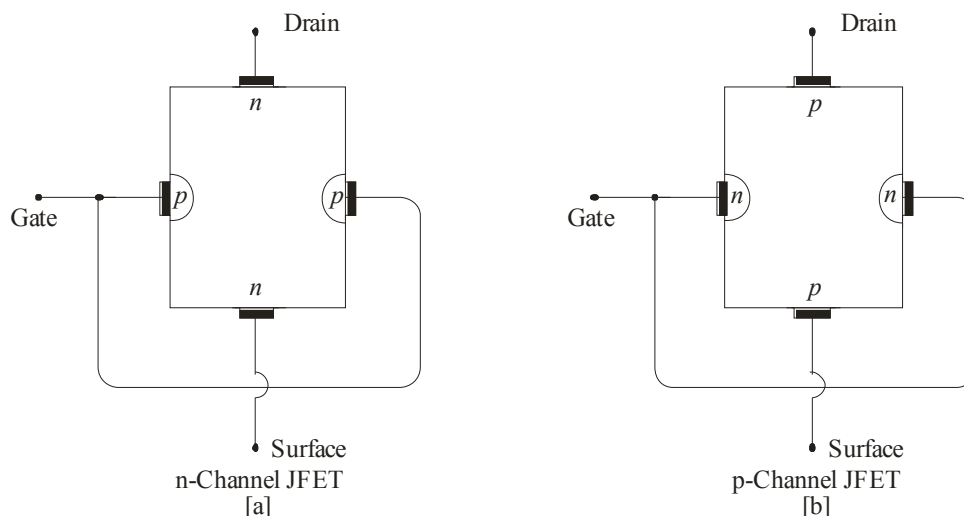

Figure 19.1
Constructional details. A JFET consists of p-type or n-type silicon bar containing two pn junction at the sides as shown in Fig. 19.1. The bar forms the conducting channel for the charge carrier. If the bar is of n-type, it is called n-channel JFET as shown in Fig. 19.1 (ii). The two pn junctions forming gates are connected internally and a common terminal called gate is taken out. Other terminals are source and drain taken out from the bar as shown. Thus a JFET has essentially three terminals viz., gate (G) source (S) and drain (D).
It would seem from Fig. 19.1 that there are three doped material regions. However, this is not the case. The gate material surrounds the channel in the same manner as a belt surrounding your waist.